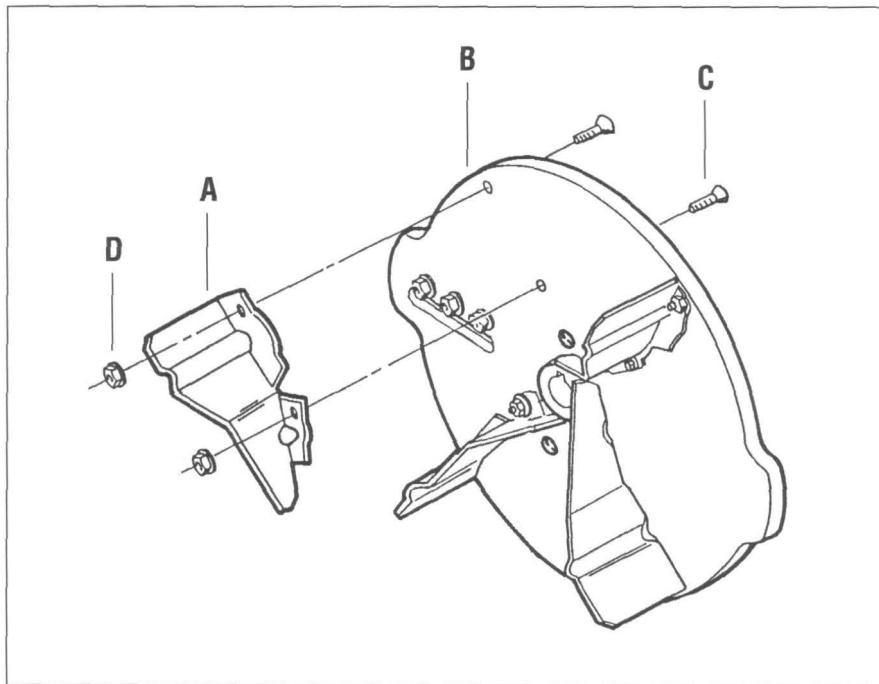

Figure 5-8: Fan blade (A), rotor assembly (B), flat head socket screw (C), and locknut (D).
A broken or severely bent fan blade can cause an unbalanced rotor assembly, resulting in abnormal vibration and poor vacuuming performance. To ensure a properly balanced rotor assembly, the four fan blades (A, Figure 5-8) must be replaced as a complete set.
2. The fan blades are attached to the rotor assembly (B, Figure 5-8) by eight flat head socket screws (C) and nylon collar locknuts (D). To remove the fan blades, first remove the rotor assembly by following Steps 2 through 3d of the chipper blade removal instructions that begin on Page 38. After removing the rotor assembly, proceed to Step 3 below.
4. Clean the countersunk holes and the face of the rotor assembly to allow the screws and fan blades to seat properly. Then, using the new hardware supplied with the new fan blades, install the fan blades as shown in Figure 5-8. Tighten the locknuts securely (if using a torque wrench, tighten locknuts to 25 ft.-lbs.).